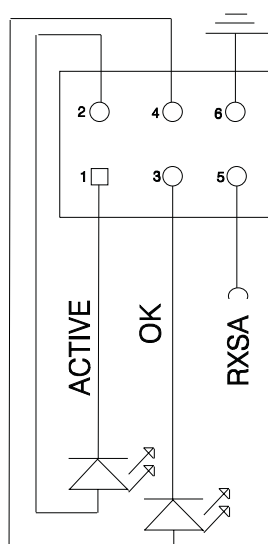

Figure 4-7. Connecting the LED Outputs
The signals used for the indicator LEDs (Read O.K. and Transmitting) are available at Indicator Outputs connector (H), they can be used to drive external LEDs or buzzers, they must be connected as shown in Figure 4-7. Ensure that the values given Table 2-18 are not exceeded.